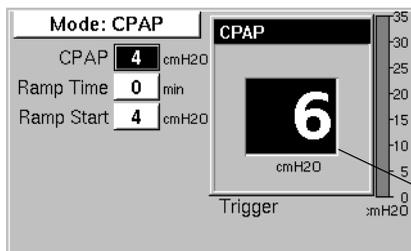

Figure 22: Changing Setting
1. Use the arrow keys to highlight the desired setting and press **ENTER**. A pop-up window for the setting appears (Figure 22).